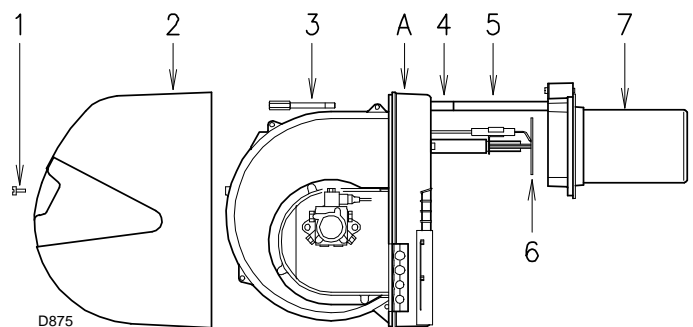

Fig. 33
- Remove screw 1)(Fig. 33) and withdraw the casing 2).